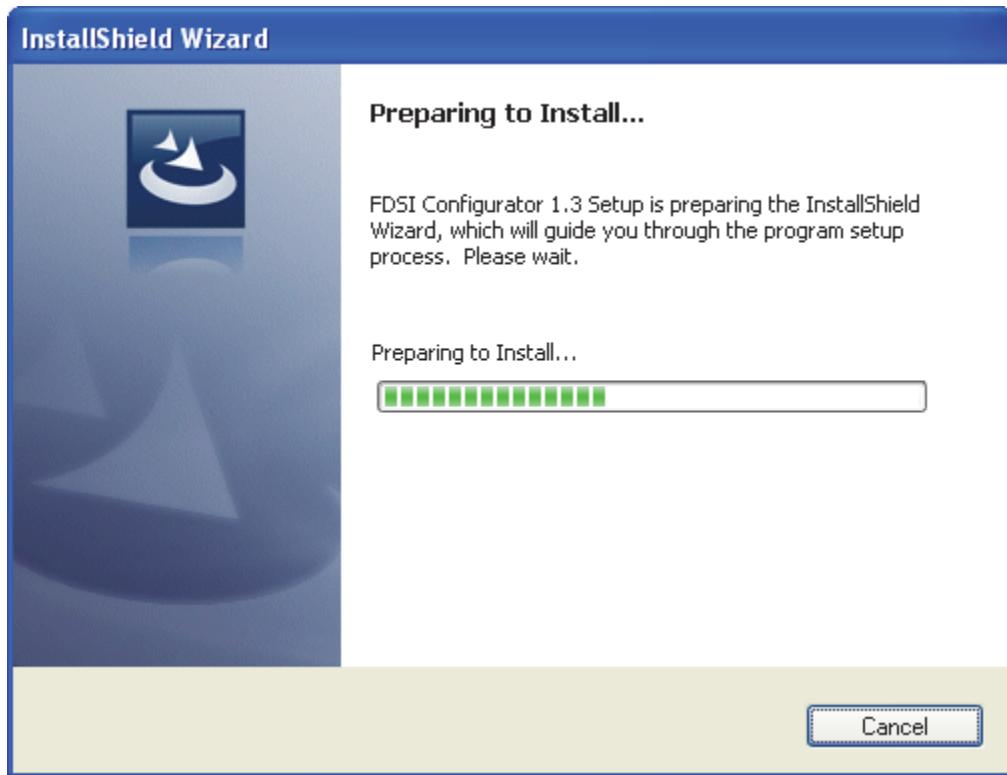
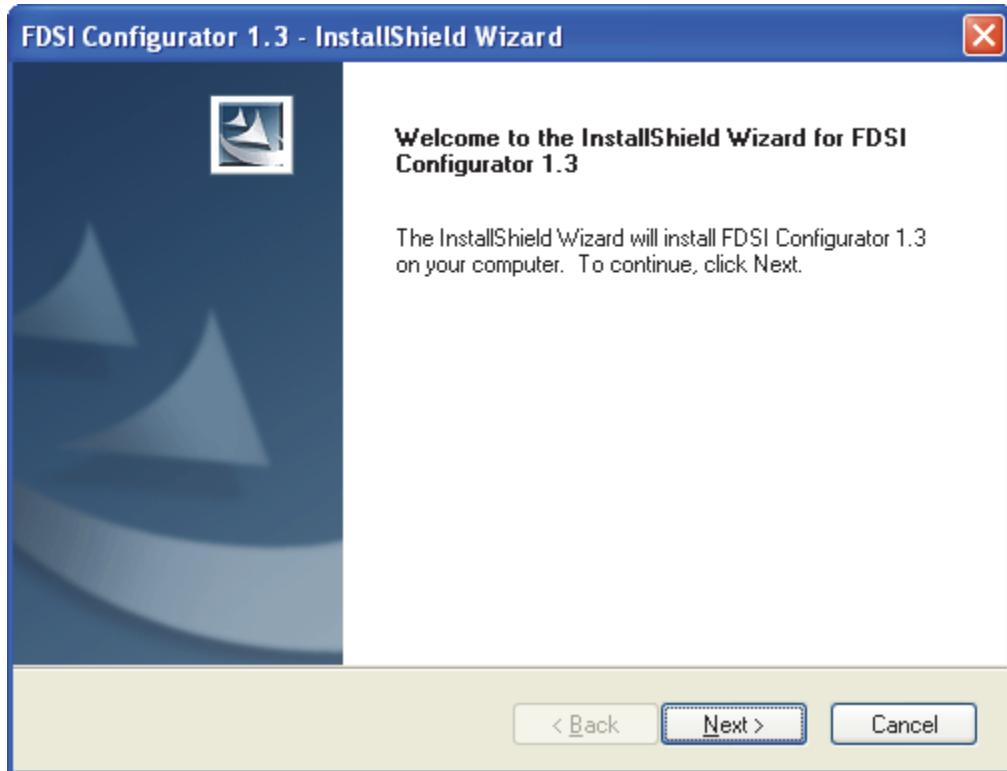

Figure 7-5. Preparing to Install Display for FDSI Configurator
Figure 7-10. Welcome Display for FDSI Configurator
3. Insert the FDSI Configurator Installation CD into the CD drive on the station. The Setup program starts automatically. Figure 7-5 appears on your screen, and then changes to Figure 7-10 (on page 123) if Microsoft .NET Framework 2.0 is already installed in your station.
- d. Click Finish to close the dialog box and start the installation of the FDSI Configurator. Figure 7-5 appears on your screen and then changes to Figure 7-10.
5. The Welcome to the InstallShield Wizard dialog box appears (Figure 7-10).
Click **Back** for the previous dialog (Figure 7-10).